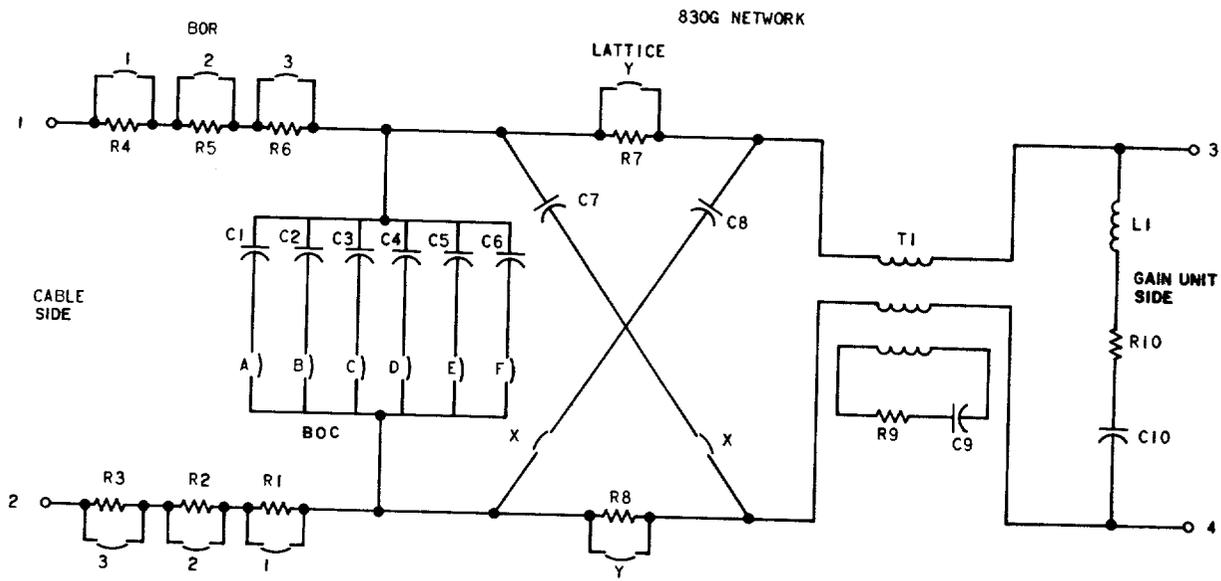

Fig. 2—830G Network Schematic
3.01 The circuit arrangement of the 830G network is shown in Fig. 2. Terminals 1 through 4 connect to the E6 repeater.